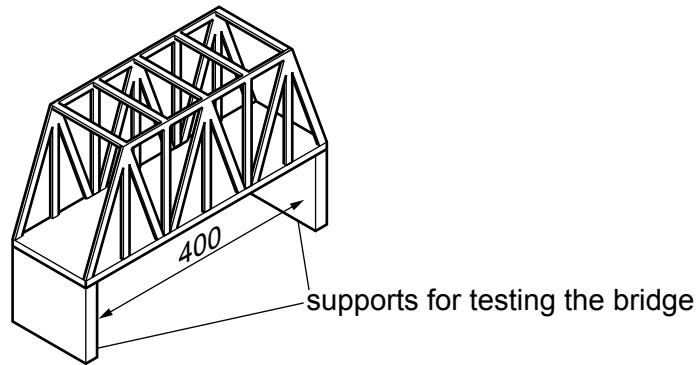

Fig. 9.3
- (c) Fig. 9.3 shows a model girder bridge that will span a gap of 400 mm. The model is to be made using resistant materials.